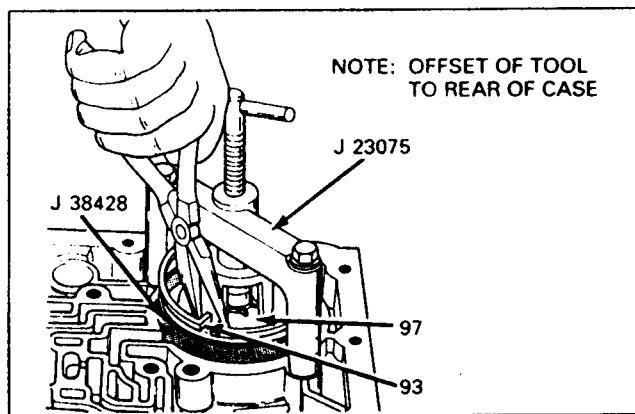

Figure 125
8. Install compression tool J-23075 with the offset of tool towards rear of case, as shown in Figure 125.
9. Compress the servo piston by turning the "T" handle on the compression tool clockwise (See Figure 125).
10. Using needle nose pliers, install the servo piston retaining ring, as shown in Figure 125.